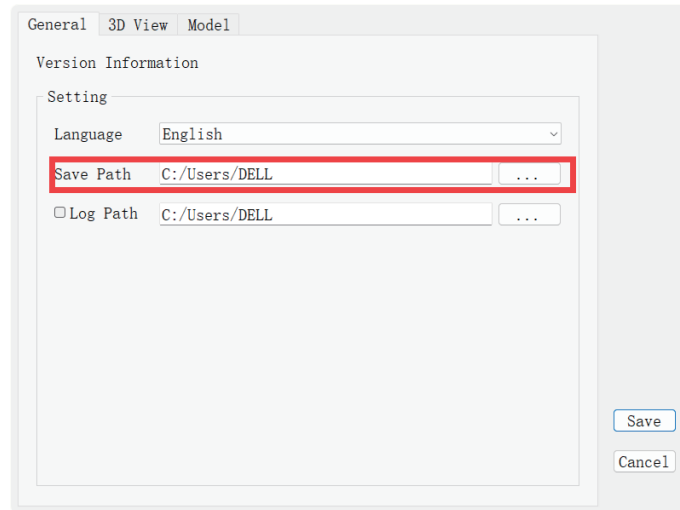

Figure 5-1
(1) Find Setup in the Menu and click Setup to switch the language version. In General-- Setting --Save Path, you can change the default path for saving scanned data. See Figure 5-1.